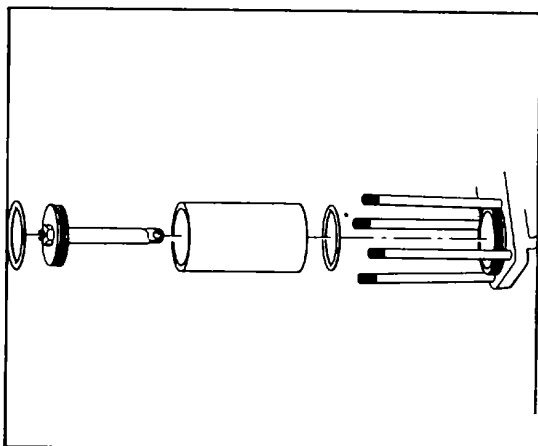

Figure 171.
14. Remove servo tube (16) with servo plunger assembly, from control housing (57). Slide the servo plunger assembly (45) and (67) from servo tube (16) and remove two O-rings (46), one from the piston (45) and one from the control housing (57). See Fig. 171.